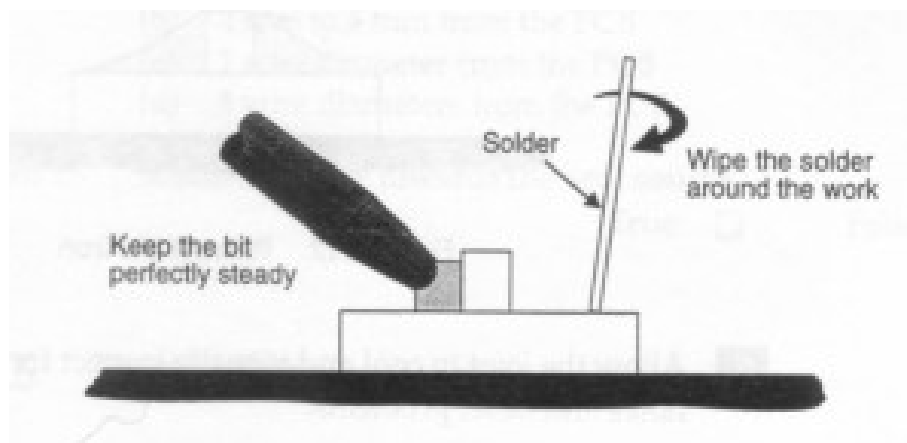

Figure C2 - Spread solder around the work
4. Apply solder around the outside edge of the pad as in Fig. C2. If the pad and lead are at the correct temperature, the solder will flow around the connection.